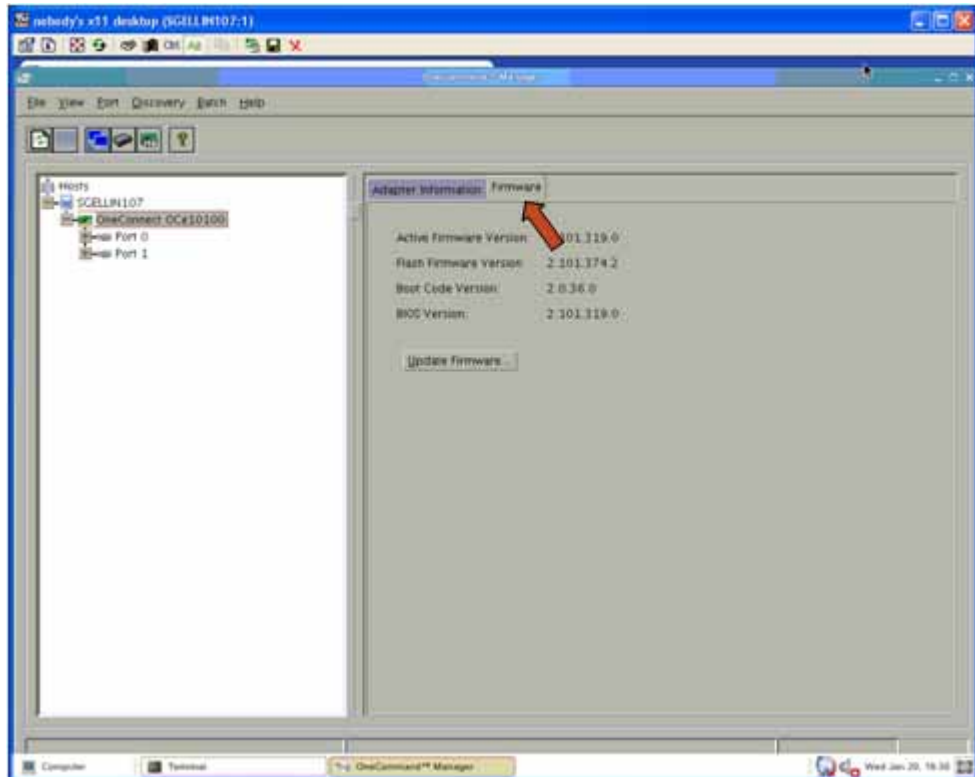

Figure 8 Firmware update interface for Emulex OCE10102-FM-E/OCE10102-FX iSCSI CNA
- ◆ However, the button for the OCe10102-FM-E/OCe10102-FX CNA iSCSI CNA is under the **Firmware** tab of the card entity, as shown in Figure 8 on page 106.
2. Click on the card entity with model name (such as "OneConnect OCe10100"; refer to Figure 8 on page 106);